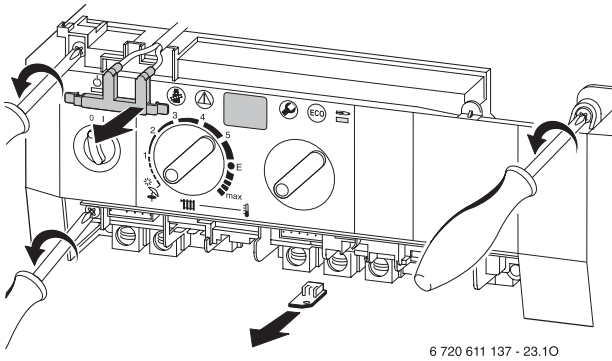

Fig. 57
- ▶ Remove two top fixing screws from the control box. Refer to fig. 57.